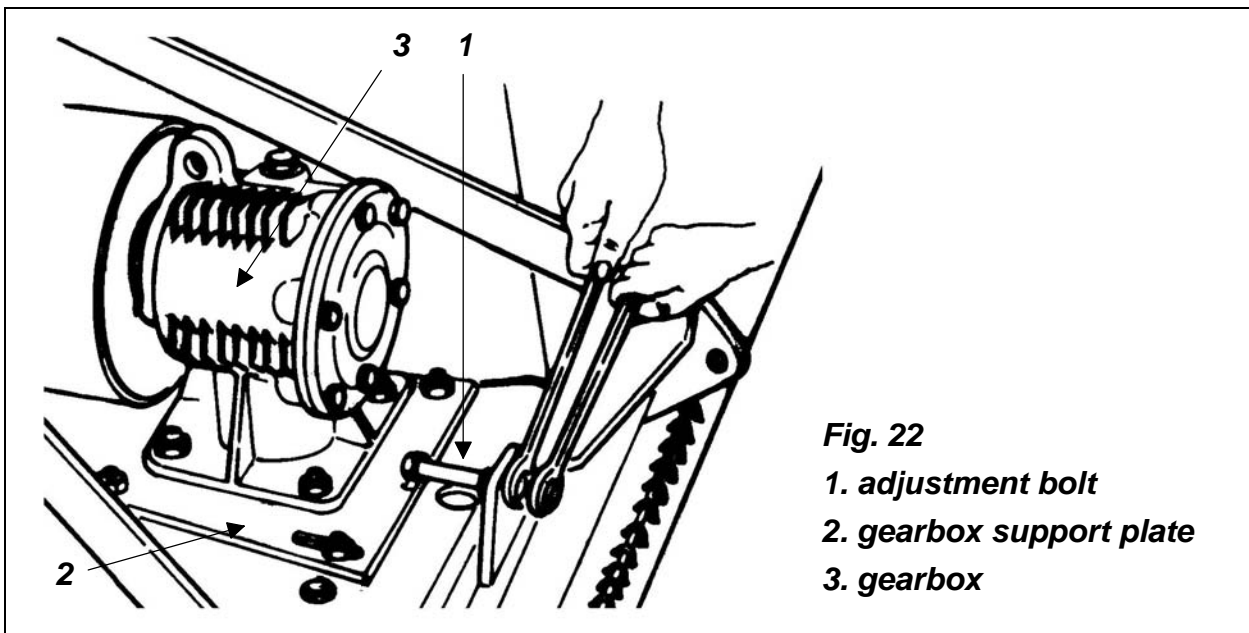

Fig. 22
To adjust the tension do the following (**see fig. 22**):
4. Turn the adjustment bolt counter clockwise, pushing the gearbox support plate forward until all tension is released (**see fig. 22**).